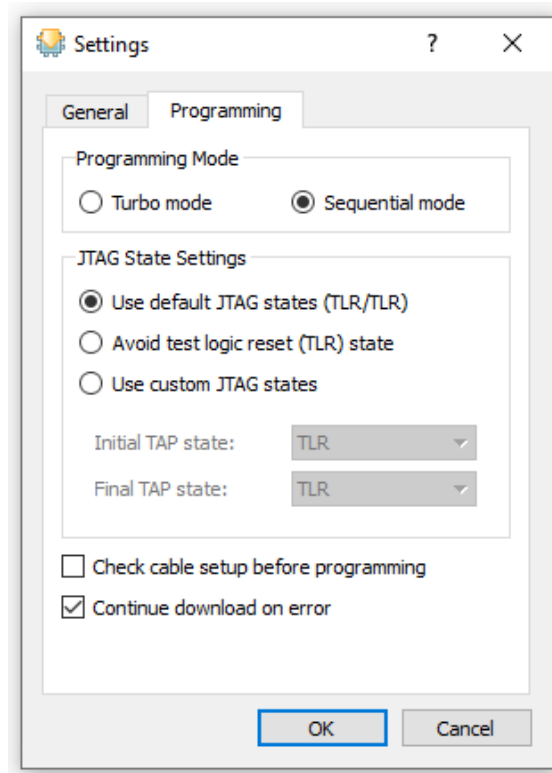

Figure 6.2. Diamond Programmer Settings for Blind Programming
3. In the Diamond Programmer main interface, click **Edit > Settings** to open the **Settings** dialog box, as shown in Figure 6.2.
2. In the Diamond Programmer main interface, click **Edit > Settings** to open the **Settings** dialog box, as shown in Figure 6.2.